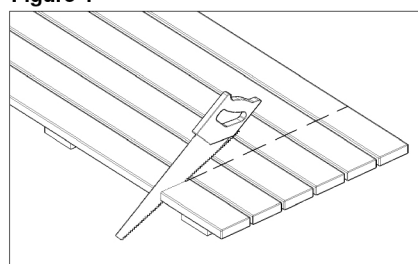

Figure 7
7. Now also cut the bench grid to measure. After cutting, the bench grid has to be the same length as the bench frame. (Figure 7)